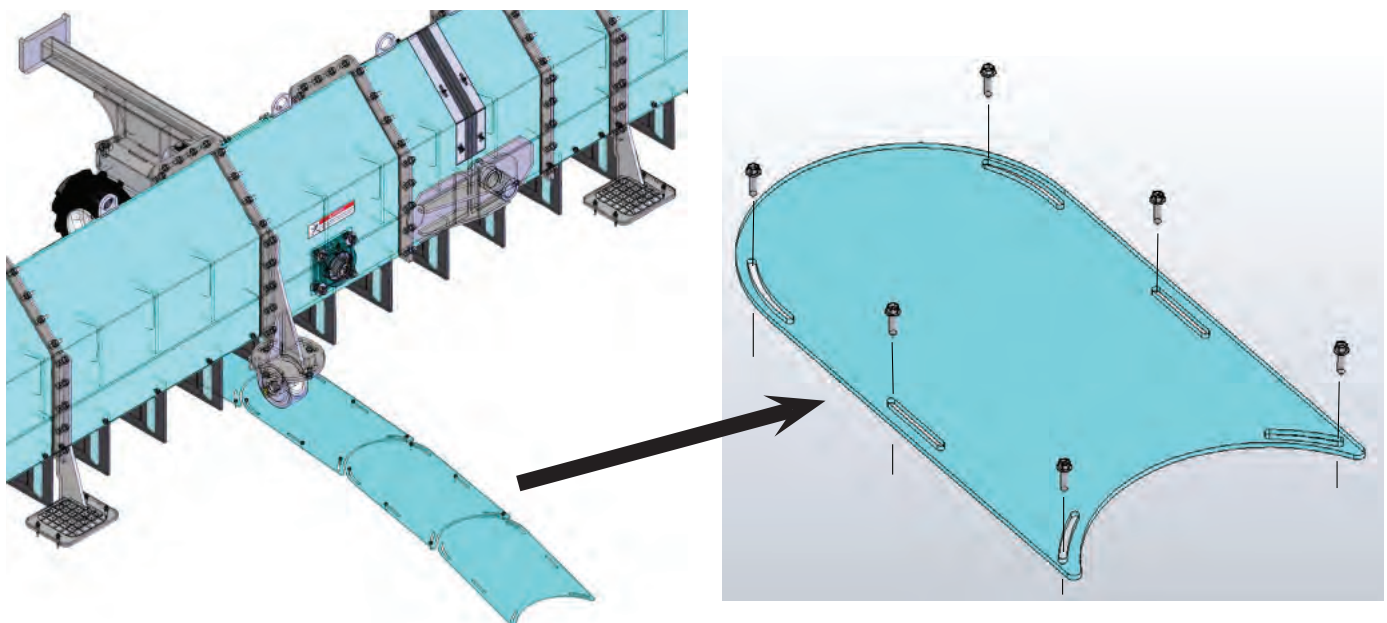

Figure 4-47: Anchor Pathway using the Six Anchor Bolts on each Pathway
3. After the path is marked you may install the pathways in an end to end fashion. See Figure 4-47.
4. Anchor down the pathways with the supplied self tapping screws. See Figure 4-47.